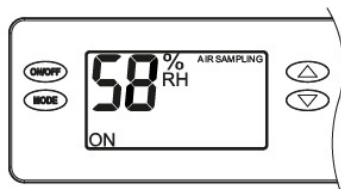

Fig. 3 – Air Sampling
3. The dehumidifier blower will turn on, the word SETTING disappears from the display, and the words AIR SAMPLING appear (Fig. 3). This wording indicates that the dehumidifier is sampling the air to determine if dehumidification is needed and shows the measured humidity level.